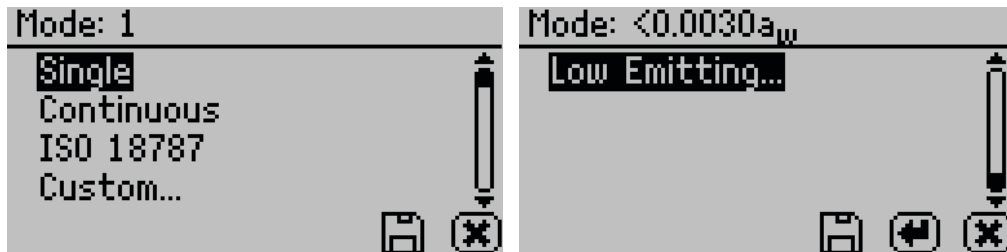

Figure 40 Custom mode options
- **Mode.** Select to choose between Single, Continuous, ISO 18787, Custom, or Low-Emitting mode (Figure 40). The current mode settings appear at the top of the screen with the number of tests appearing first, followed by the stability value ( $\Delta a_w$ ).